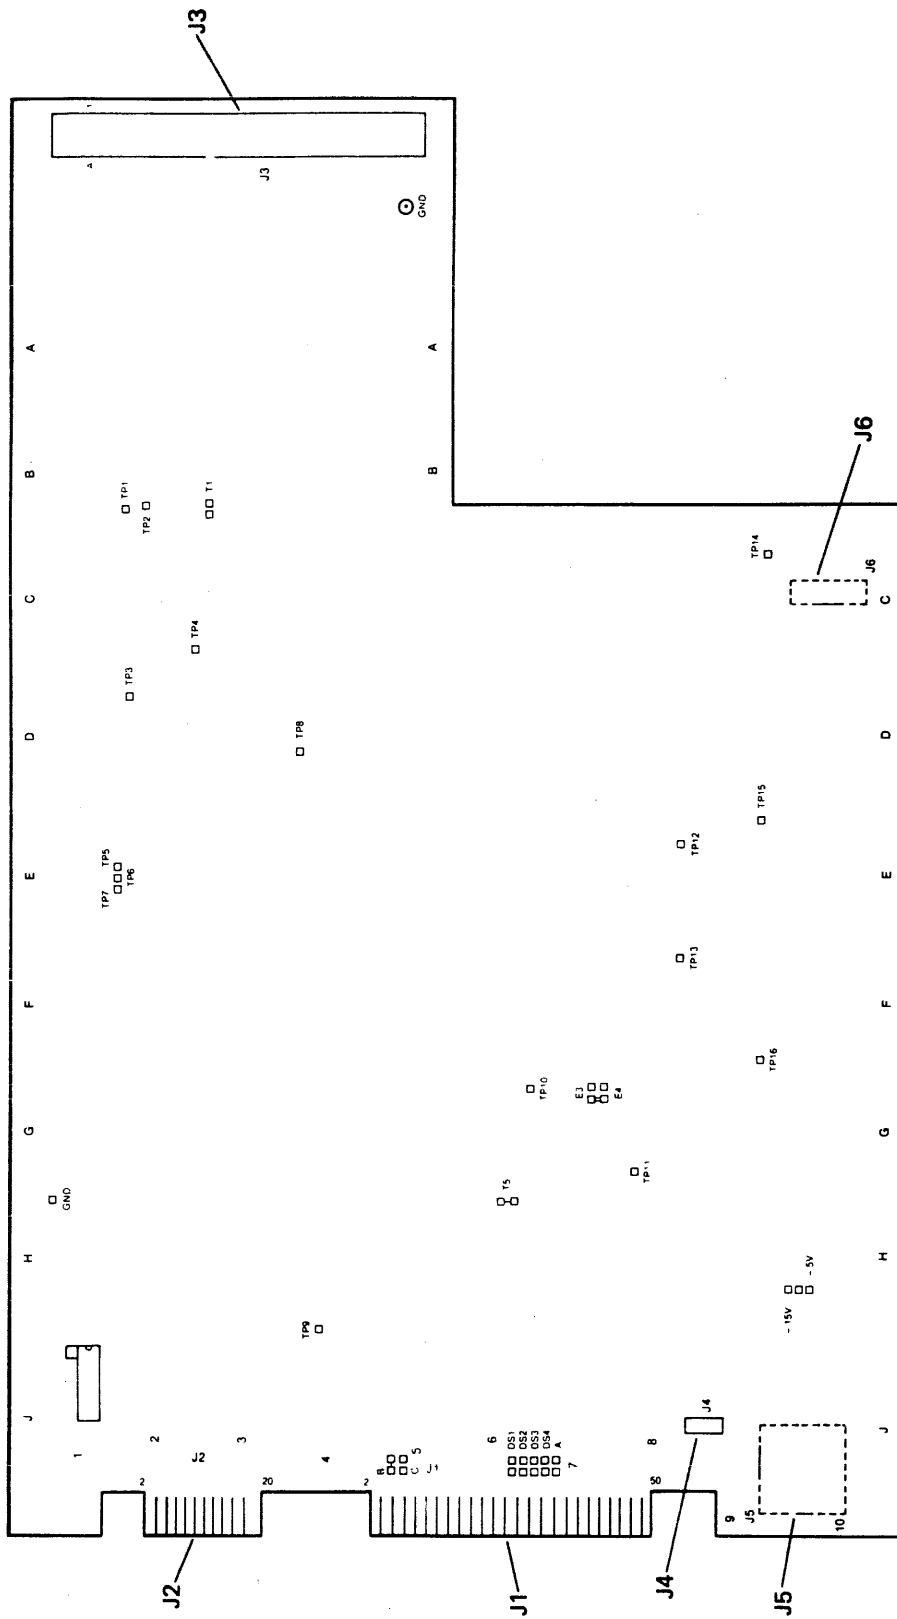

FIGURE 5-2
- 7) Remove the drive transistor assembly by removing the hold down screw. Refer to Figure 5-2 for screw location.